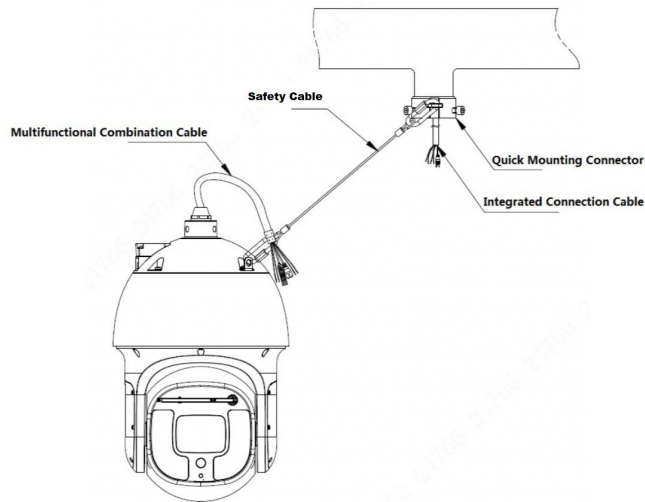

Figure 2-5
Step 1 Connect one end of the safety cable on the speed dome and the other end on the bracket hook, as shown in Figure 2-5.